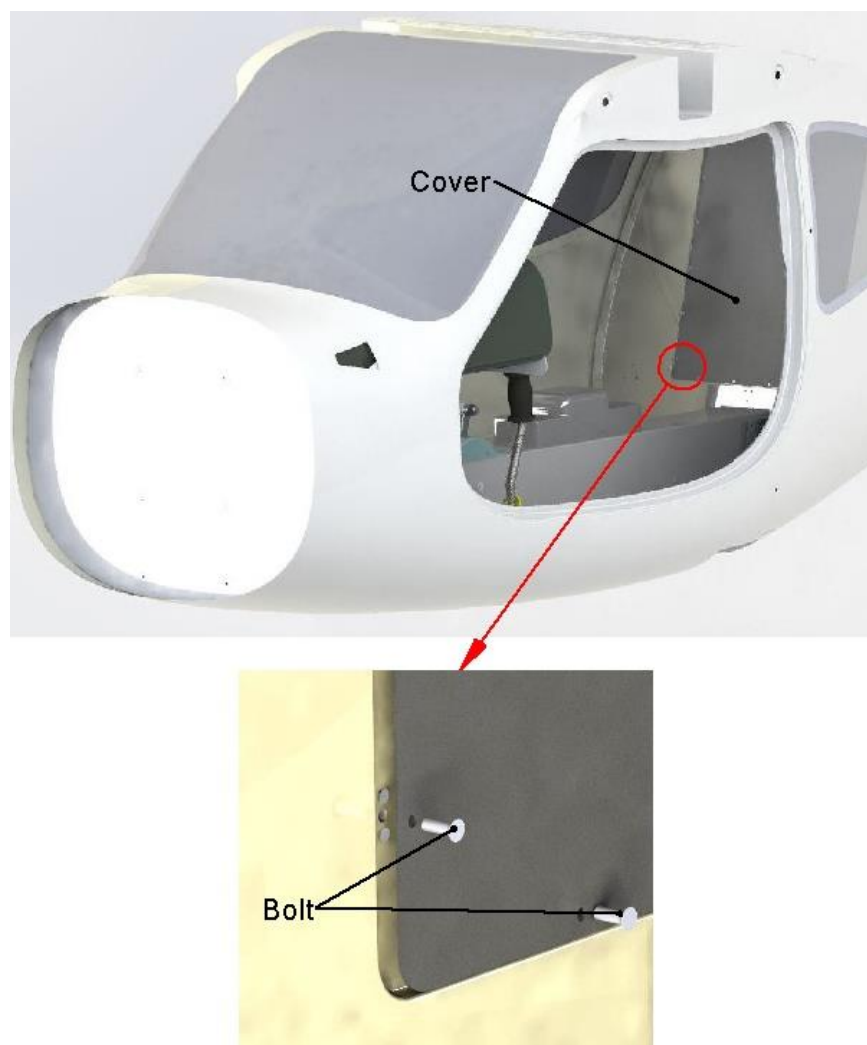

Fig. 25-00-4
B. Fabric Covers Removal and Installation (Fig. 25-00-4).